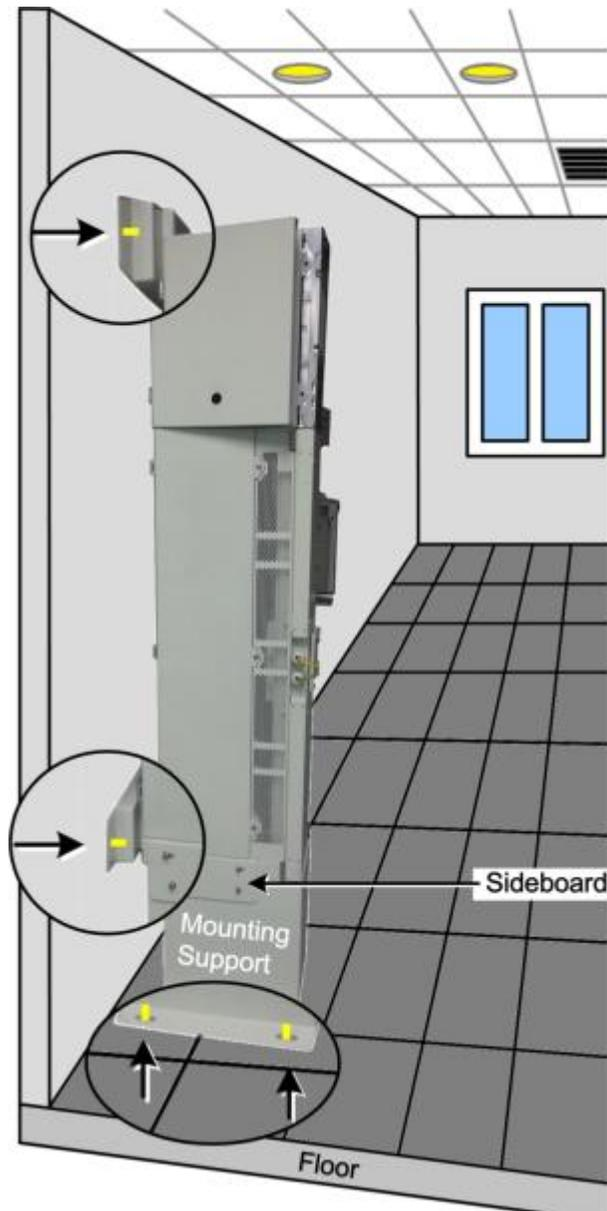

Figure 3-15. Location of Inserted Masonry Bolts
9. Insert masonry M10 bolts into drilled holes and tighten. Refer to Figure 3-15.